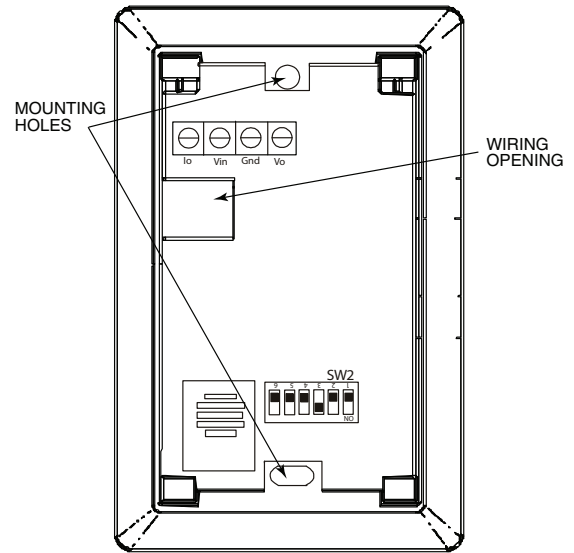

Fig. 57 — Space Relative Humidity Sensor Installation
If the sensor is installed directly on a wall service, install the humidity sensor using 2 screws and 2 hollow wall anchors (field-supplied). Do not over tighten screws. See Fig. 57.
1. At the sensor, remove 4 inches of the jacket from the cable. Strip ¼ inch of insulation from each conductor. Route the cable through the wire clearance opening in the center of the sensor. See Fig. 57.